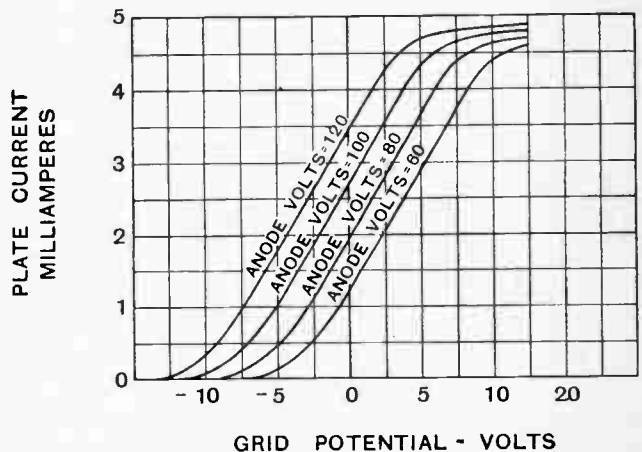
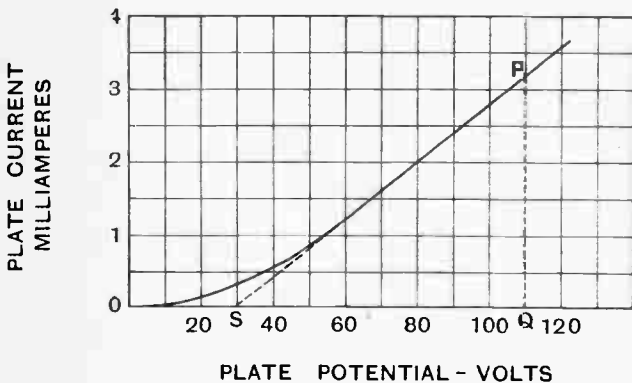

Fig. 2.—Group or "family" of anode characteristic curves for a three-electrode valve.
Fig. 3.—Plate potential—plate current curve of three-electrode valve with grid at zero potential.
In Fig. 2 a number of such characteristic curves is given for a well-known make of receiving valve, and this group or "family" of curves enables us to predict the most important properties of the valve as far as performance is concerned. There is, however, one other very important curve from which the internal resistance of the valve is found, namely, the plate voltage-plate current curve. The value of plate voltage to which each of the curves of Fig. 2 corresponds is indicated on the curve itself.
nearly parallel. This means that for any value of plate voltage within wide limits the change of plate current is the same for a given small change of grid voltage, provided operation takes place on the straight part of the corresponding curve in each particular case. Note that operation on the straight part of any of the curves gives the greatest change in plate current for a given change in grid voltage. We see at once from Fig. 2 that increasing the plate voltage does not materially alter the shape of the curve, but merely moves it bodily to the left.
Now, for a constant grid potential of zero with respect to the negative leg of the filament,  $e$  is a constant quantity except for very low values of plate voltage, and therefore a curve showing the relation between the plate potential and plate current with the grid voltage kept at zero will be a straight line except for low values of plate voltage, and from this straight-line portion we are enabled to find the internal resistance of the valve. In Fig. 3 this particular curve is given for the same valve whose anode characteristic curves we considered above; the filament current was kept constant and the grid voltage kept at zero during the measurements. Now from equation (1) above it is clear that the resistance  $R_a$  depends alone on the slope of the straight portion of the curve. To find the internal resistance of the valve, then, produce the straight portion of the curve down to meet the horizontal axis at S; draw any vertical line PQ from a point P on the curve to meet the horizontal axis at Q. Then the ratio of SQ in volts to PQ in amperes gives the internal resistance of the valve in ohms. From the figure,  $SQ = 80.7$  volts and  $PQ = 3.2$  mA or  $\frac{3.2}{1,000}$  amps.
ated on the steepest part of any one of the anode characteristic curves of Fig. 2. It is a fairly large number, and one naturally asks: Where does the energy go when the plate current flows through this resistance? It is dissipated at the plate as heat which is produced by bombardment of the plate by the electrons. In fact, if an excessive positive potential is given to the plate it will become red hot. Transmitting valves often run under normal operating conditions with the plates a dull red heat.
Suppose that we have 80 volts on the plate of the valve, and that the grid voltage is changed from zero to -1 volt. From the 80-volt curve in Fig. 2 we see that this causes the plate current to decrease from 1.95 mA to 1.62 mA. Now, referring to the curve of Fig. 3, we find that the change of plate voltage required to decrease the current from 1.95 to 1.62 milliamps. is 8.7 volts. Thus changing the grid potential by one volt has the same effect as changing the plate potential by 8.7 volts. A small change in grid potential produces the equivalent of a comparatively large change of plate voltage, and this is the property which accounts for the amplifying qualities of a three-electrode valve. The number 8.7 which we have just found is called the "amplification factor" or "amplification constant" of the valve, and is usually denoted by  $\mu$ . In general terms we may define the amplification factor of a valve as the ratio of the change of plate voltage necessary to bring about a given change of plate current, to the change of grid potential required to produce the same change of plate current, or the number of volts by which the plate potential must be raised to maintain the current constant when the grid potential is lowered by one volt. The amplification factor  $\mu$  is the greatest possible amplifica-
For the particular valve we have under consideration we find from Fig. 2 that when the plate potential is 80 volts the plate current is 1.95 milliamps for zero grid potential, and we have seen that  $R_a = 25,200$  ohms. Substituting these values in the above equation we get
voltage  $V_s = 31$ . This is a constant number provided the valve is operated on the straight portion of any of the anode characteristic curves of Fig. 2. Thus, for our valve, equation (2) becomes
To check this equation for truth make  $V_a = 100$  volts and  $V_g = -1$  volt, so that  $\mu V_g = -8.7$ . This gives a plate current of  $I_a = (100 - 31 - 8.7)/25,200 = 2.39$  milliamps. Now, looking up the 100-volt curve of Fig. 2 we